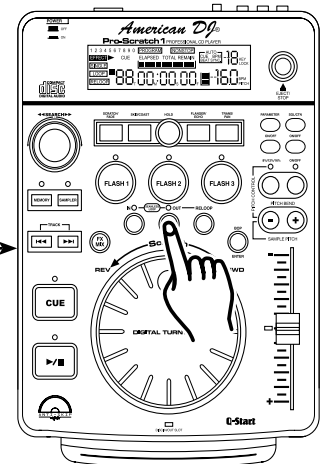

Figure 33
- 2) Press the **IN BUTTON (12)** (Figure 33) at the point you want your BOP to take place.